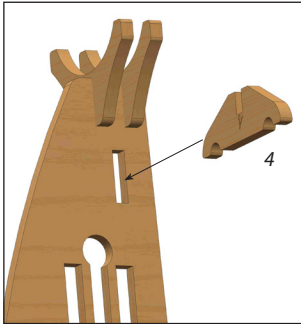

Figure 5
8. Glue Part 4 onto Part 2 in the slot under the Part 3s (Figure 5). Center this part in the opening of Part 2 and make sure it is set in place by sliding it as far up into the slot as possible.